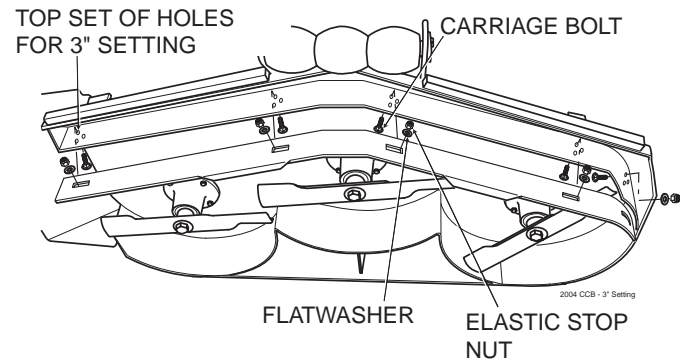

Figure 6-9. 3" Custom-Cut Baffle Position
- A. 3" Position - baffle is installed using the top set of holes on the front baffle welded inside the cutter deck. (See Figure 6.9). In this position the Velocity-Plus cutter deck will deliver the best quality-of-cut in very tall, wiry, tough to cut grass.
3. Move the Custom-Cut Baffle to desired position. (See Figures 6.9 through 6.11 for position).
4. Reinstall the mounting hardware as shown. (See Figures 6.9 through 6.11). Torque hardware to 39 ft/lbs.